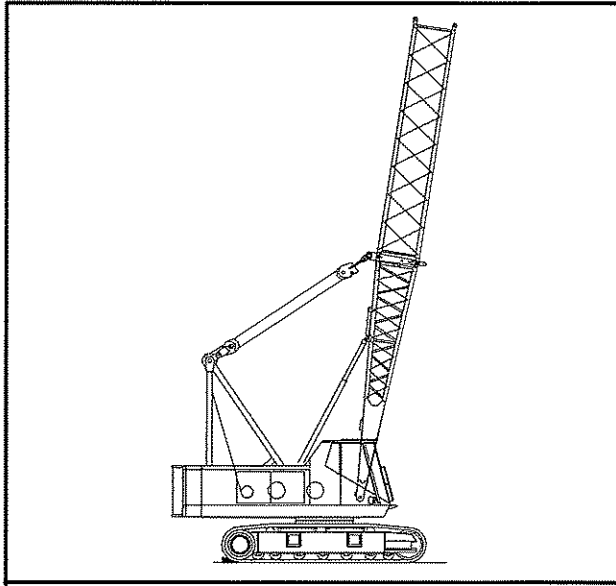

Figure 1–80
28. Raise/lower the gantry as required and pin it in the high position with the backstay pins. Secure with lock pins. Refer to Figure 1–78.
31. If required, install the lower “XL” counterweights. Refer to Figure 1–79. Attach slings to a lower “XL” counterweight. Lift with an auxiliary lifting device and position it on the hooks on the side frame. Lower it into position and install two lower “XL” counterweight bolts through the lower “XL” counterweight and into the side frame. Properly torque the bolts. Remove the slings from the lower “XL” counterweight.
4. If using extensions without the top section, connect the bridle to the handling links on the base section. Refer to Figure 1–80.